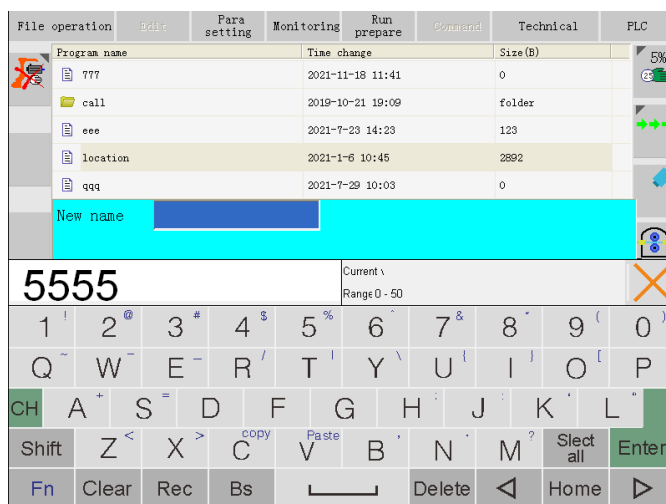

Fig.7.2
5. Enter the name of the new program in the pop-up window (e.g. 5555). After entering the file name, as shown in Fig.7.2.